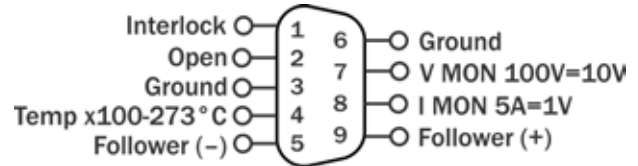

Figure 7.1 – Remote Status and Control Pin-outs on 9-pin D-Sub Connectors
**Figure 7.1** maps the pins used for these applications. NOTE: Both 9-pin D-Sub connectors have the same pin-outs and either port can be used for remote applications.